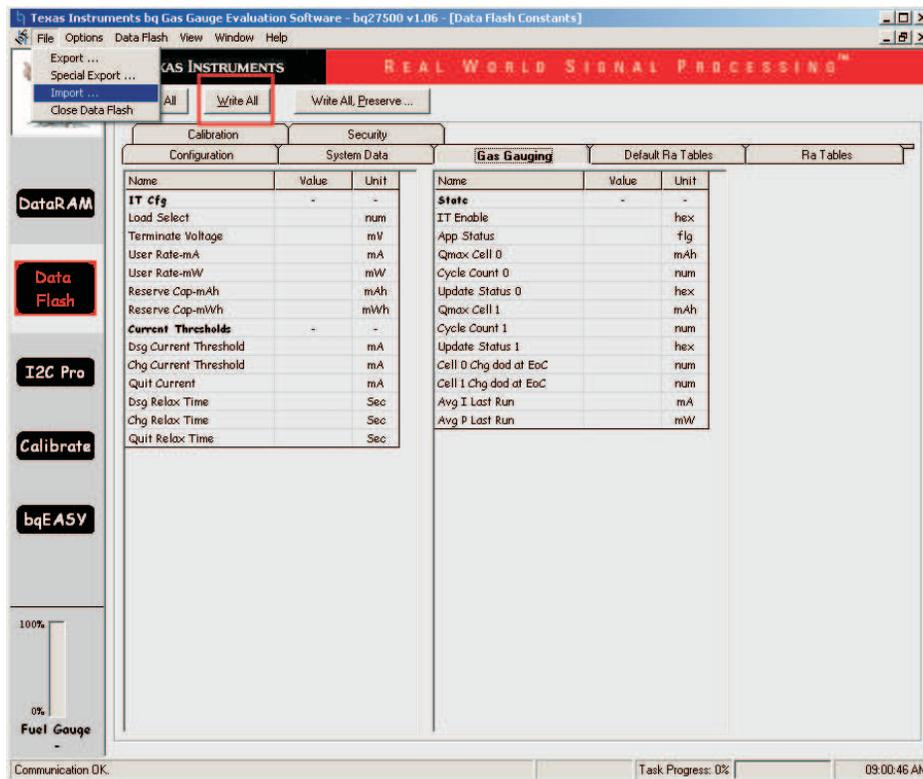

Figure 4. Export and Load *.gg File
3. Go to the Data Flash screen and read all the data flash contents, and export the data flash into the old.gg file (see Figure 4) . Modify the old.gg file to the new.gg file by opening the old.gg file and changing the firmware version in the file header.
6. Go to Data Flash screen and Import the new.gg file into the device (see Figure 4). After loading the new.gg file, click the **Write All** button to write these data flash values into the device. Because the data flash configuration may not be the same between old firmware version and new firmware version, an error message may occur.